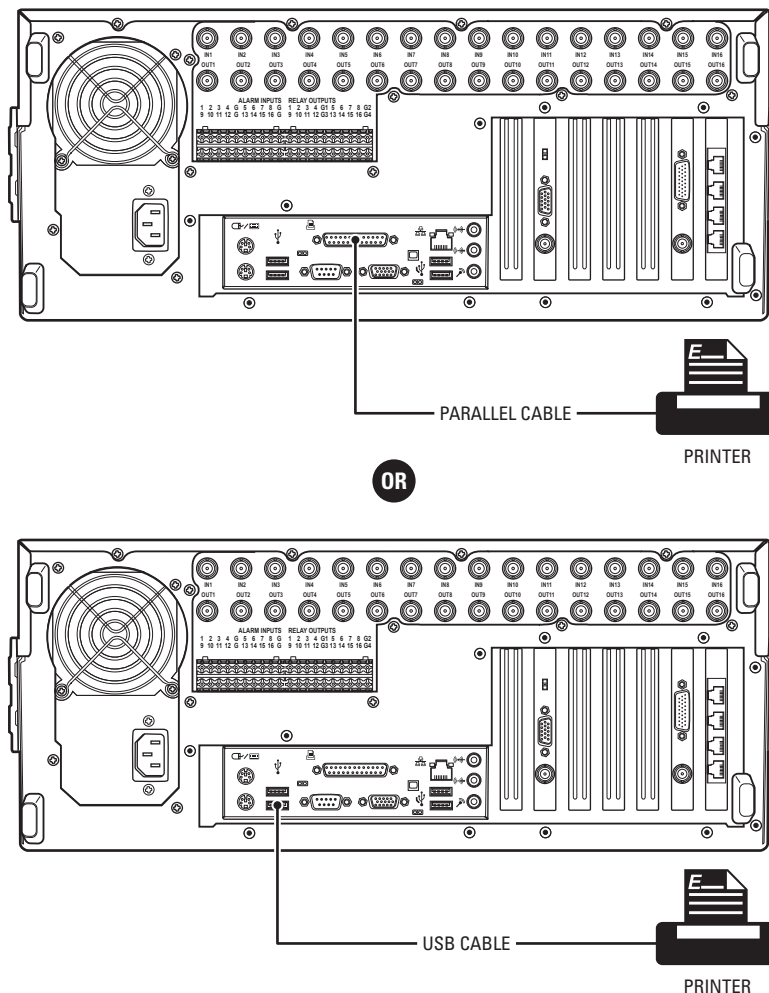

Figure 37. Printer Connection
2. Connect the printer (refer to Figure 37).